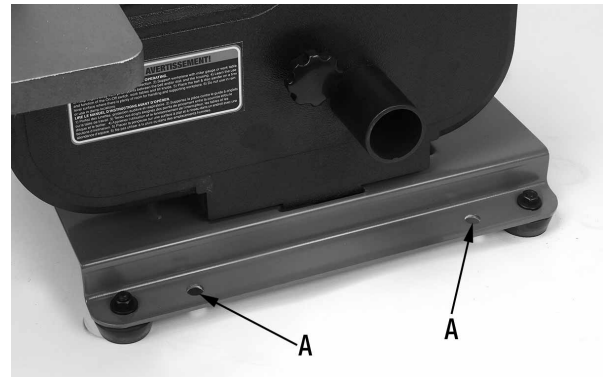

Figure 3
If mounting to a workbench, use the provided holes (A) Fig.3 in the base for mounting and holes should be drilled through supporting surface of the workbench.